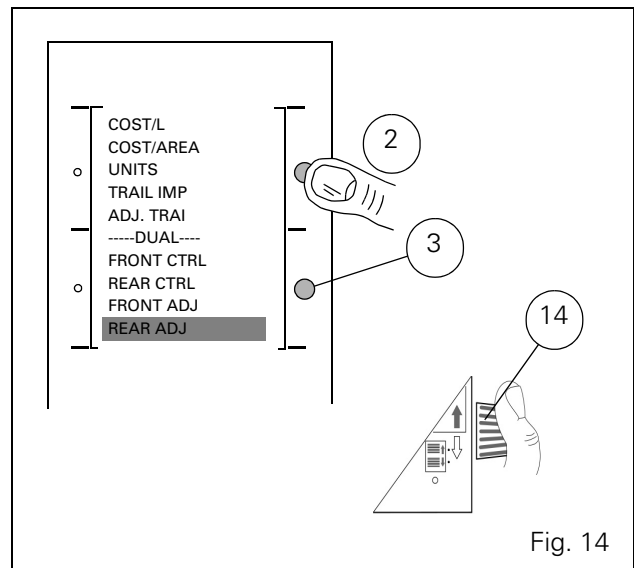
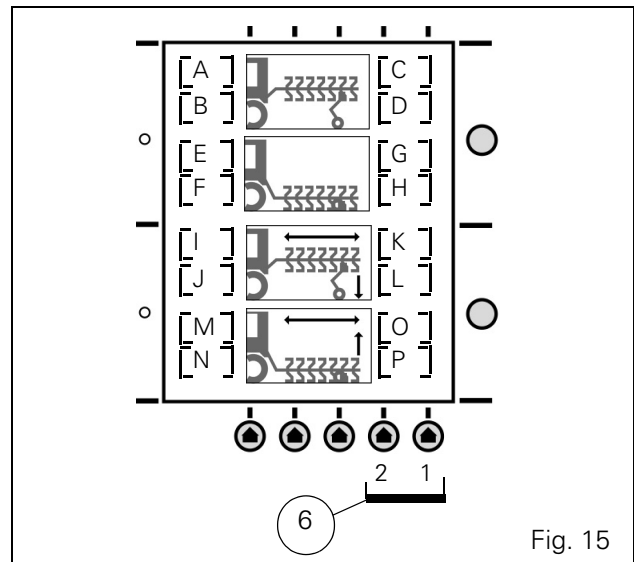

Fig. 14
Fig. 15
Press key 2 or 3, (Fig. 14), drop-down menu appears. Select, **-REAR ADJ-**; four new symbols are displayed (Fig. 15).
To select one of the display windows, use keys 6-1 and 6-2 (Fig. 15).